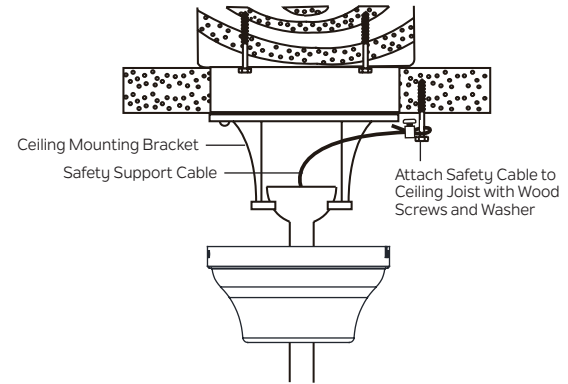

Fig. 12
**Step 1.** Attach the provided wood screw and washer to the ceiling joist next to the mounting bracket but do not tighten. **(Fig. 12)**